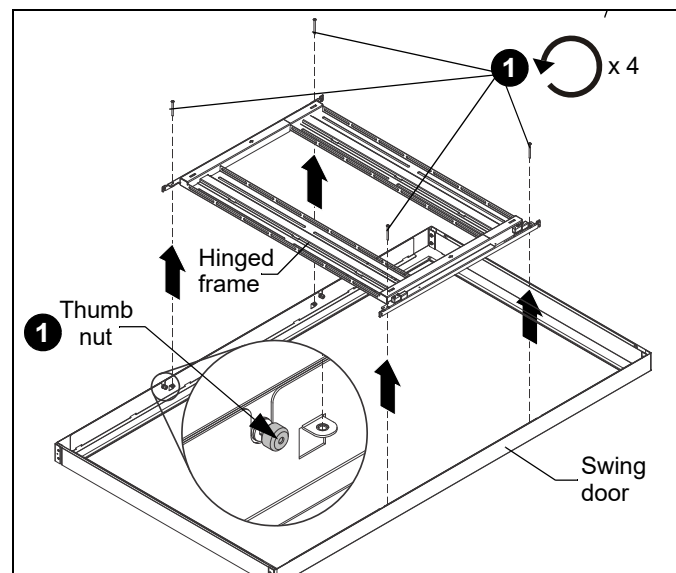

Figure 6
1. Remove and **SAVE** four Phillips screws, loosen four thumb nuts and remove hinged frame from swing door. (See Figure 6)